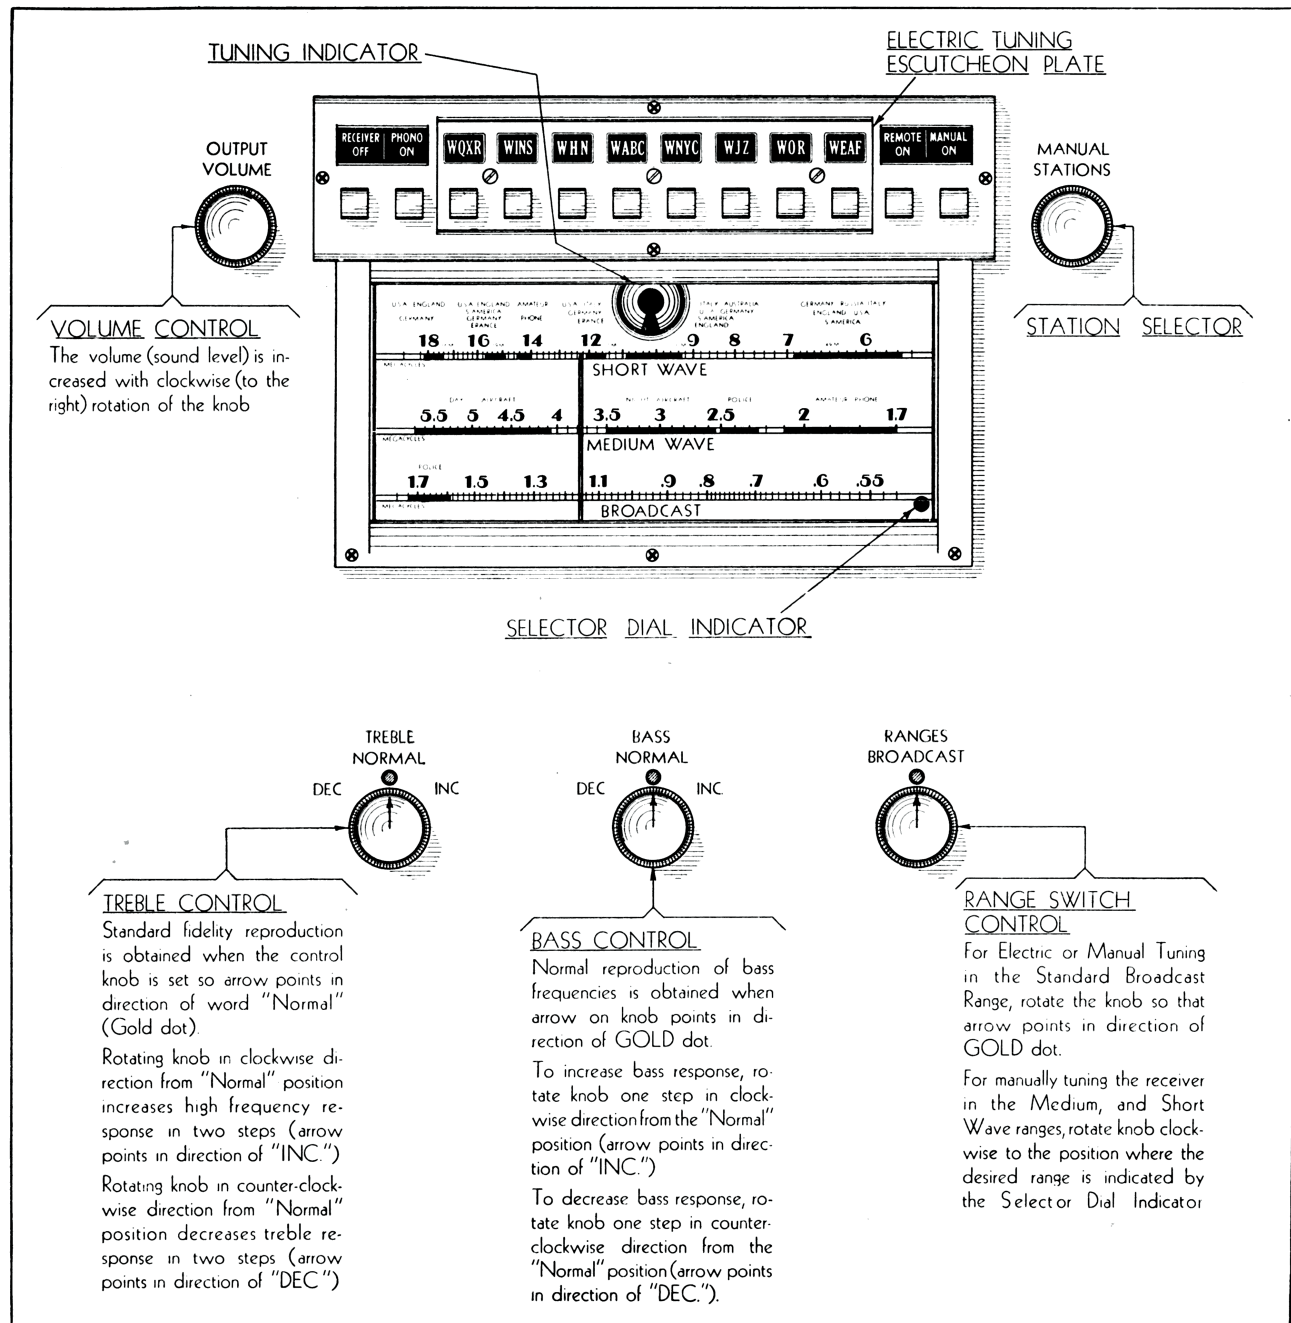

Fig. 1. Location and Operation of Controls.
The tuning unit is wrapped in tissue paper and fastened to the chassis in order to prevent damage during shipment. After unfastening and unpacking the unit, it should be mounted in its proper location. Before placing this unit in its proper location make sure that the tuning indicator tube is fully inserted into its accompanying socket. Then, by means of the metal clamp and clamping screw, fasten this unit to the metal bracket which extends from the center of the dial frame (looking at the rear of the receiver) by inserting the screw into the slot of this bracket, at the same time placing the end of the tube at the rear of the hole in the tuning dial. See Figure 1. The clamping screw should then be securely tightened.
To adjust the tuning indicator tube's aperture to its proper operating position, first turn the radio receiver "On", and then rotate the tube, in its mounting clamp, so that the aperture appearing on the target of the tube is as shown in Figure 1.
5. Remove the three screws which hold the electric tuning escutcheon plate (metal plate) to the electric tuning escutcheon; see Figure 1. Then, remove from the escutcheon, the strip of transparent material and the strip of paper on which the eight stars are printed.
The push buttons for electric tuning and the control knobs located on the front of the cabinet with their functions indicated are shown in Figure 1.